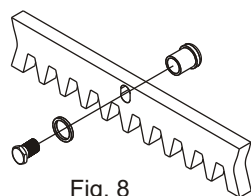

Fig. 8
**6.2.** Fit the bolts to each section of rack using the provided blocking screw. Make sure the bolts are placed in the upper part of the holes (See Fig. 8) ;